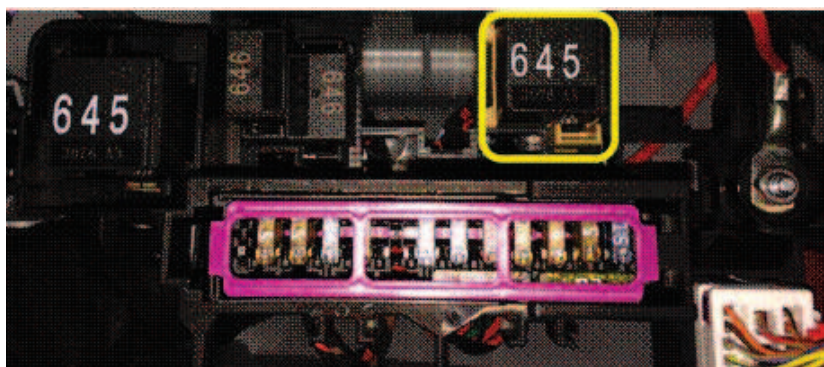

Figure 6. J271 relay (outlined).
7. The J271 relay is now accessible (Figure 6).